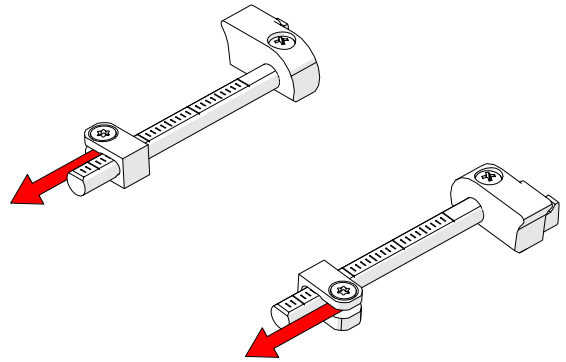

Fig. 84 - Remove the wedge separation indicator
6. Slide the wedge separation indicator off the crossbar (Fig. 84).